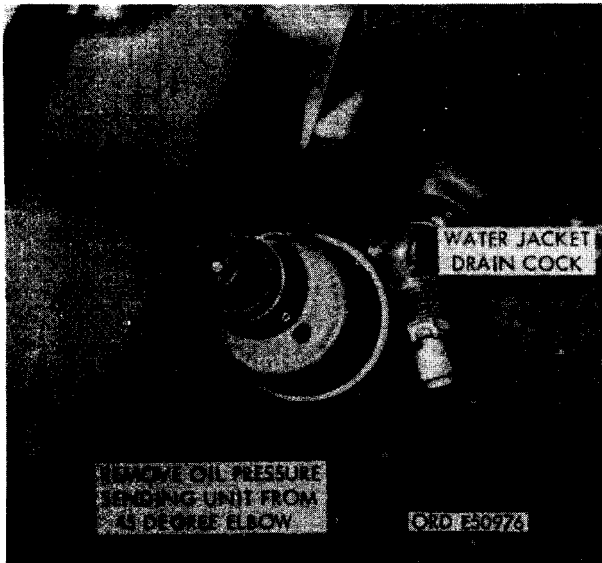

FIGURE 107. REMOVING OR INSTALLING OIL PRESSURE SENDING UNIT AND/OR CYLINDER BLOCK WATER JACKET DRAIN COCK.
a. Removal. Refer to figure 107 and remove the oil pressure sending unit and/or water jacket drain cock.
b. Installation. Refer to figure 107 and reverse the instructions to install oil pressure sending unit or cylinder block water jacket drain cock.